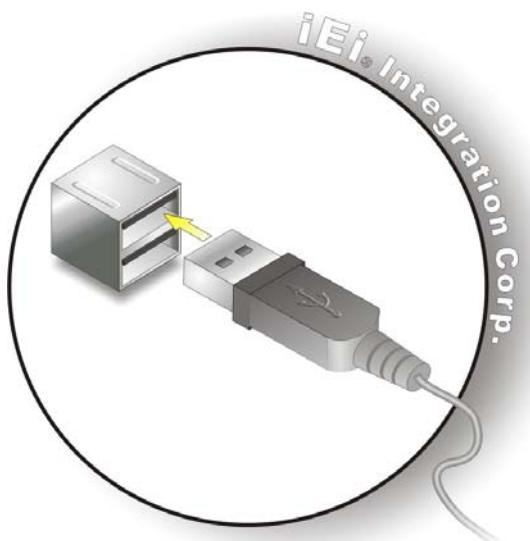

Figure 4-24: USB Connector
Step 2: Insert a USB Series "A" plug. Insert the USB Series "A" plug of a device into the USB Series "A" receptacle on the external peripheral interface. See **Figure 4-24**.